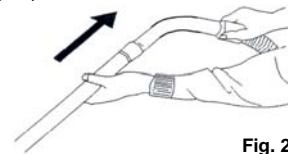

Fig. 2
2. Insert the upper extension tube into the curved wand/hose extension. The upper extension tube is the one with the accessory caddy attached. Then insert the lower extension tube into the upper extension tube. (Fig. 2)